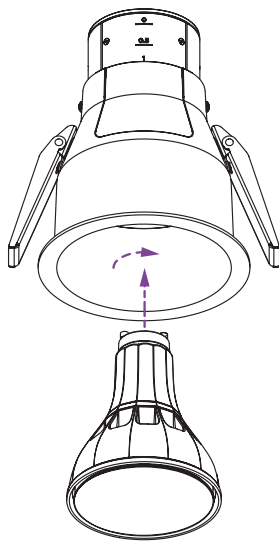

fig. 14
1. Insert the light engine into the D4R housing (see fig. 14).